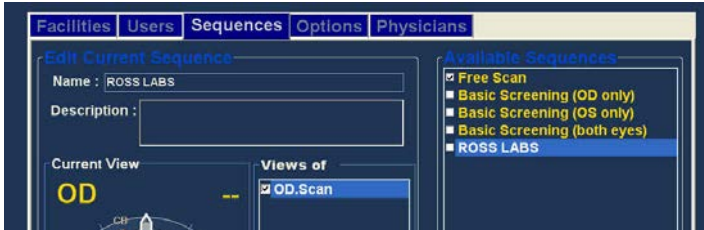

Figure 4.18 - New Sequence - New View Active
1. Select the first view, or scan, of the new sequence by either clicking in the checkbox or double clicking on the scan title [e.g. OD.Scan] as shown in Figure 4.18 below.